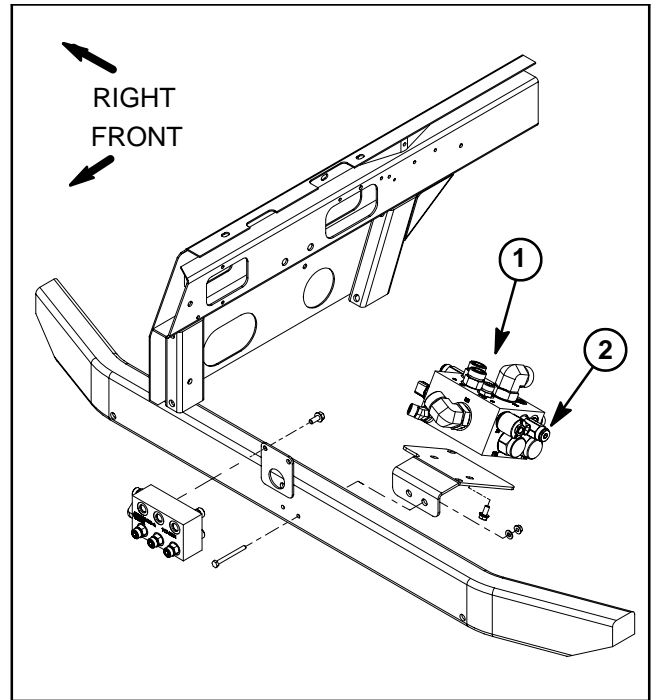

Figure 36
3. Connect a 1000 PSI (70 bar) pressure gauge to test port G on on rear side of 4WD/2WD control manifold under operator's platform (Fig. 36).
6. Relief valve (RV) is located on the left side of the 4WD/2WD control manifold in the RV port (Fig. 36). Adjustment of the relief valve can be performed as follows: